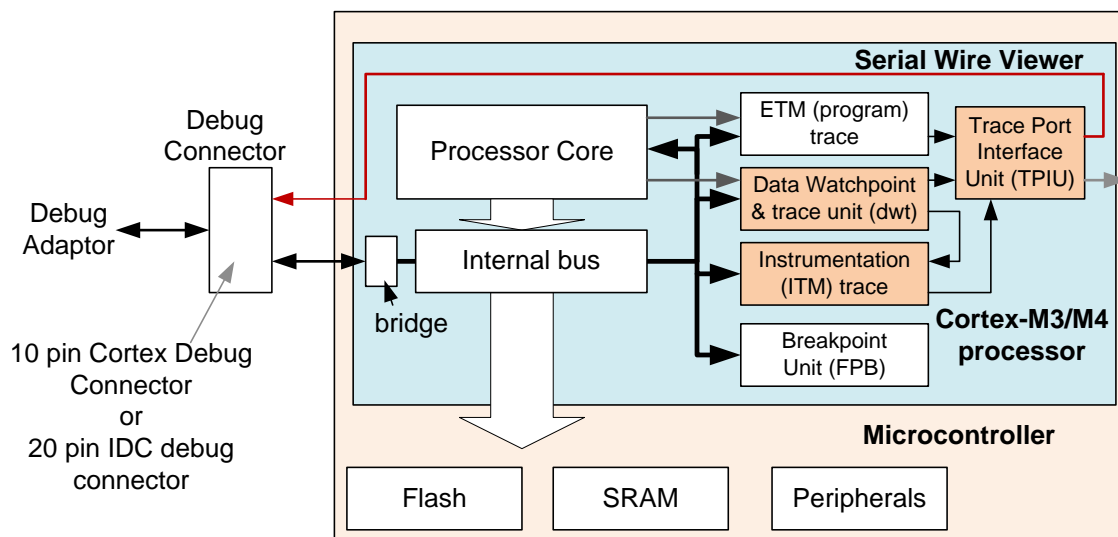

Figure 11: Serial wire viewer provides low cost, low pin count trace
- Serial Wire Viewer (SWV) – single pin trace connection that can support selective data trace, event trace, profiling and instrumentation trace. (Figure 11)